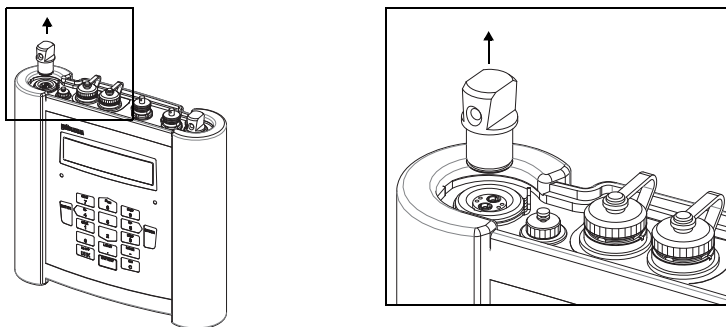

Fig. 7.6: Removing the blind plug
- Remove the blind plug (see Fig. 7.6).